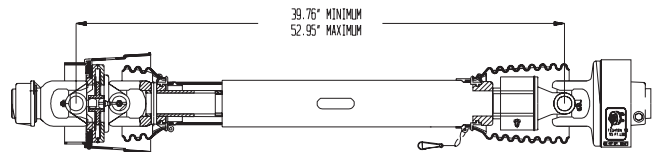

FIGURE 6. PTO DRIVE LINE
**AN IMPROPERLY LOCATED HITCH POINT MAY CAUSE DAMAGE TO THE UNIVERSAL JOINTS OF THE PTO DRIVE SHAFT. CONFORMING TO THE DRAWBAR AND PTO RELATIONSHIP SHOWN ON FIGURE 1, PAGE 8 WILL ENSURE THAT THE PTO DRIVESHAFT WILL NOT BECOME OVER EXTENDED. USE THE CORRECT SETTING FOR 14" - 540RPM 1 3/8-6 or 16" - 1000RPM 1 3/8-21. WITH INITIAL HOOK-UP TO YOUR NEW MEYER SPREADER TEST PTO TRAVEL BY TURNING EQUIPMENT IN BOTH DIRECTIONS OBSERVING THE MINIMUM AND MAXIMUM TRAVEL DIMENSIONS AS SHOWN PER DRAWING ON FIGURE 6, PAGE 15.**